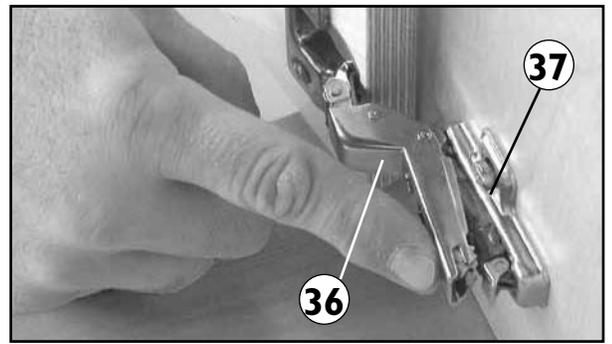

Fig. 14
15. Attach door. Clip on door by "hooking" front of hinge onto hinge mounting plate (37) first. **Fig 14**. Then push on back edge of hinge until it locks into place. If door does not clip on, check hinge mounting plates for proper installation. To remove door, push down on release levers.